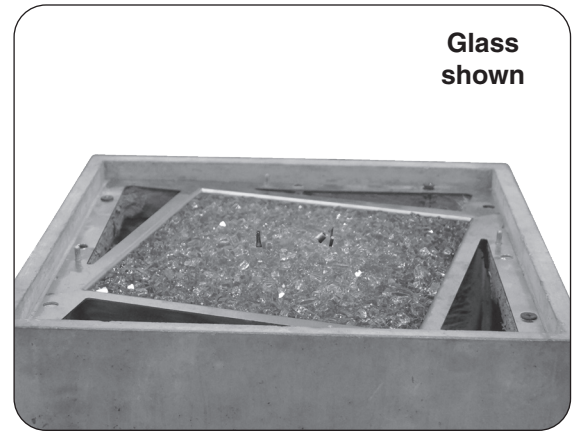
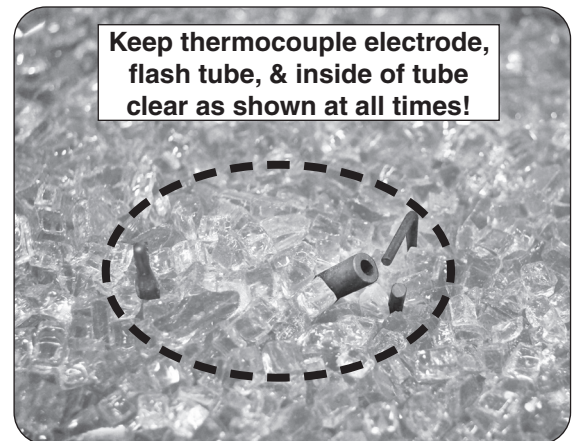

Fig. 21-1 Glass placement
Fig. 21-2 Required clearance
Pour the glass media (glass/gems) evenly into the burner pan (see Fig. 21-1 and Fig. 21-2).
- **Keep the thermocouple, electrode, flash tube, and inside of the flash tube clear of glass media and any other items/debris at all times. This will allow for proper ignition and operation. DO NOT COVER. See Fig. 21-2.**